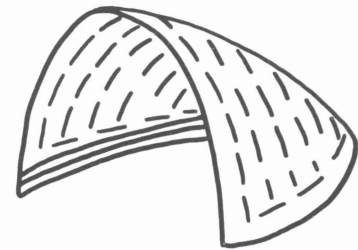

Figure 40. Loosely hand baste the layers of the shoulder pad together.
11. While the curve is still evident, loosely hand baste the layers together (Figure 40).